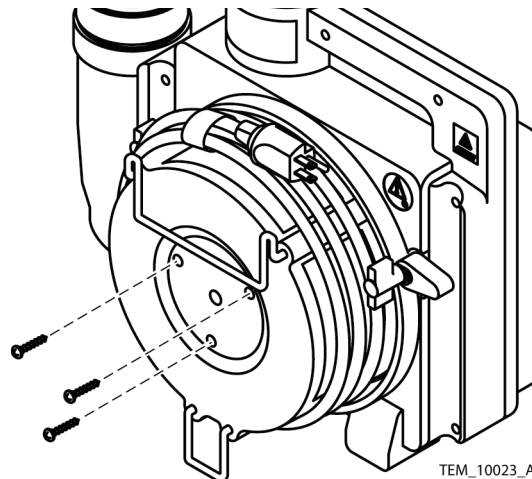

Figure 57. Filter Cover Installation
28. Install the filter cover assembly on the rear cover assembly. Tighten the screws to 8 to 12 in/lbs (20 to 30 cm/kg). See Figure 57.